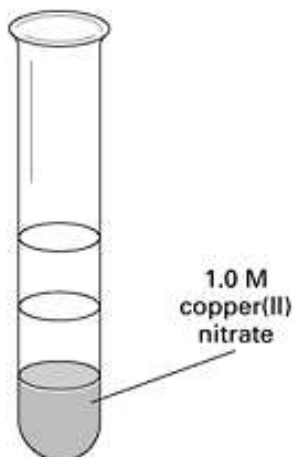

Figure 1
4. Add 1.0 M copper(II) nitrate to the first mark on the test tube, as shown in **Figure 1**.